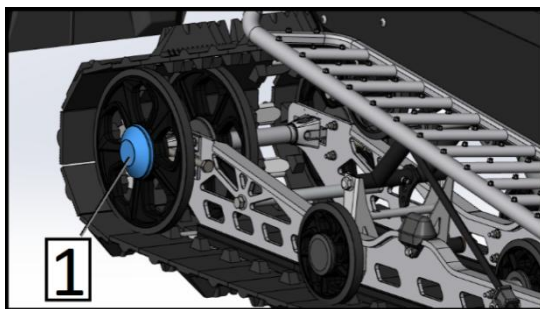

Fig. 38
2. Remove the rear wheel (if installed) cover (position 5, Fig. 38).